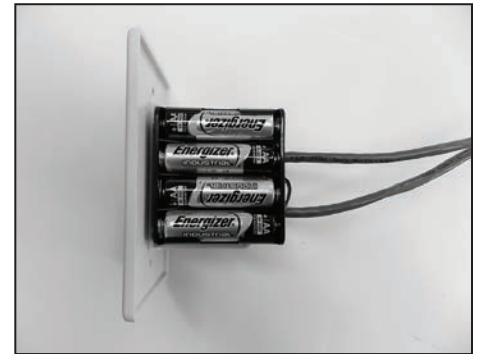

Figure 26: Wall switch - battery side.
8. Insert the 4 supplied "AA" batteries into the battery pack of the wall switch. (Figure 26).